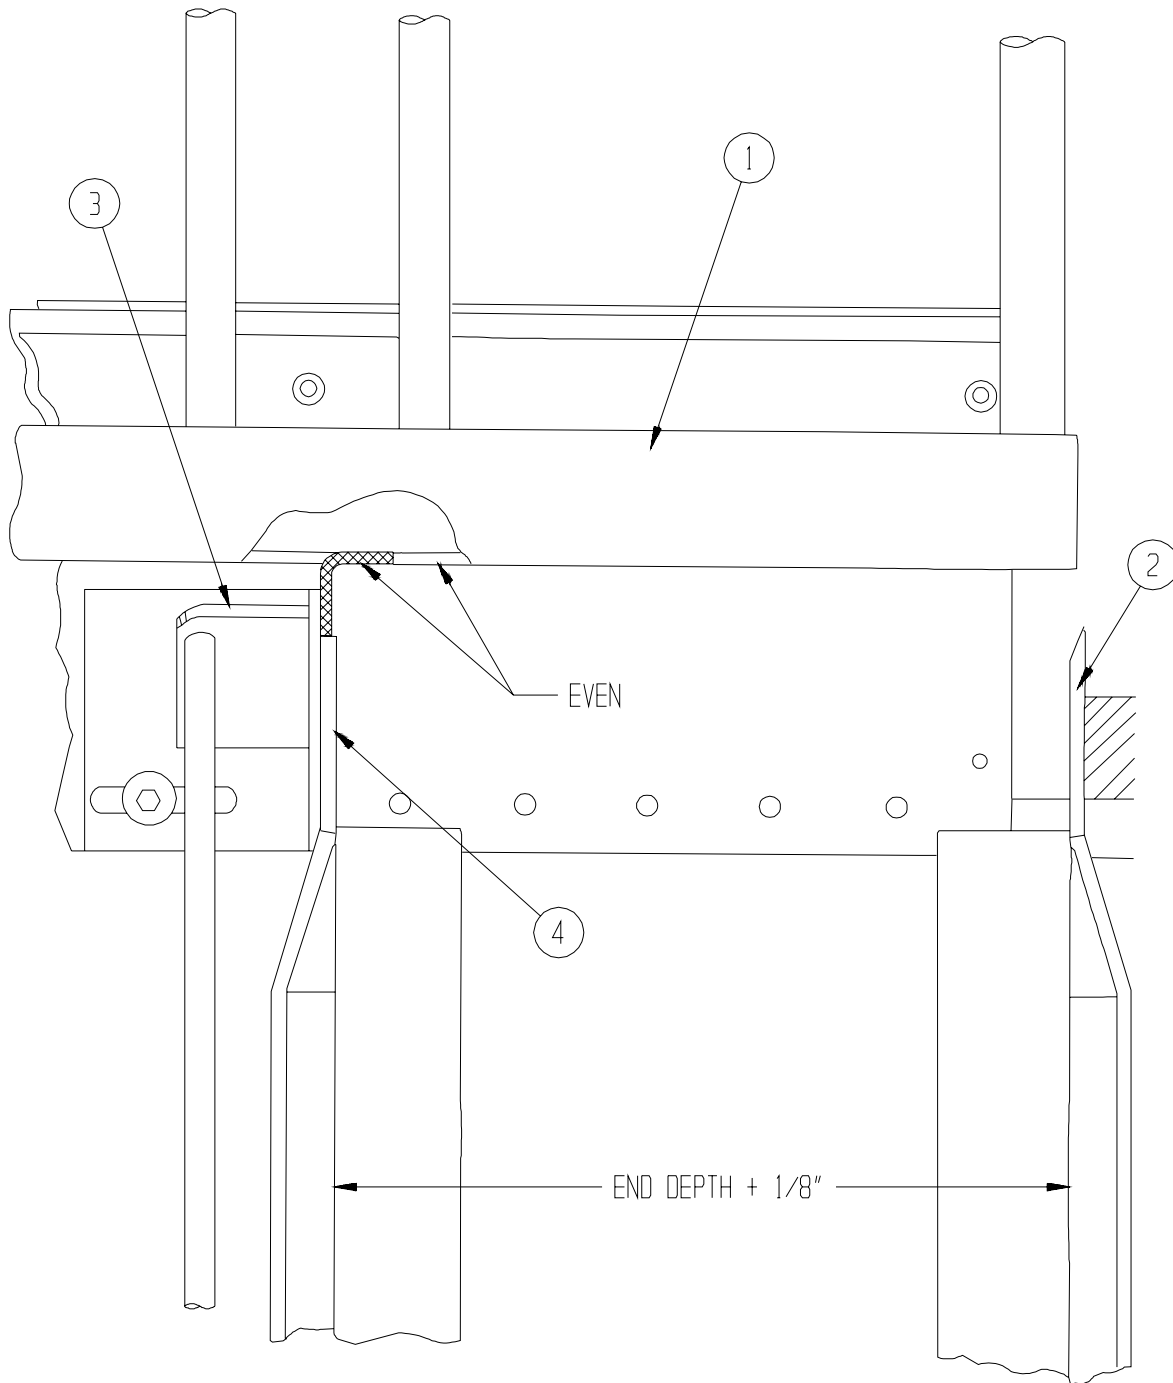

Figure 5-8B: End Hopper Adjustment
FIGURE 5-8B
**Figure 5-8B** - With the above adjustment completed, adjust the Box End Rear Hopper Stop (0013202 R/L) so that the tab is even with the Mandrel as shown. Now adjust the front Hopper Rail Mount Bracket (0013202) which is attached to the Box End Hopper Front Rail (0013302 R/L) so that the distance between (0013302 R/L) and 0013102 R/L is one end depth plus 1/8 inch.